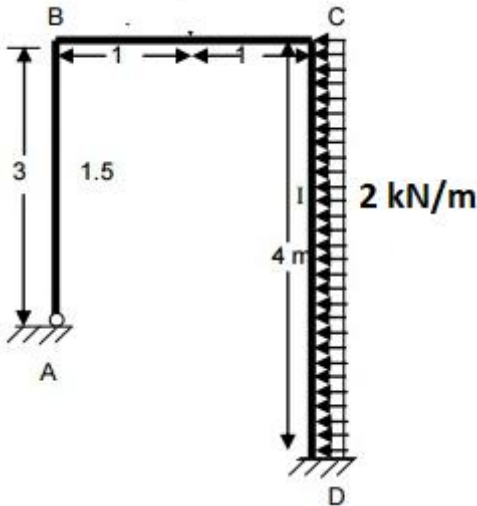

Fig.1 14M
3. A portal frame ABCD is hinged at A and fixed at D and has stiff joints at B and C. the loading is as shown in Fig.1. Draw the bending moment diagram and deflected shape of the frame. All dimensions are in m. Use Slope deflection method.